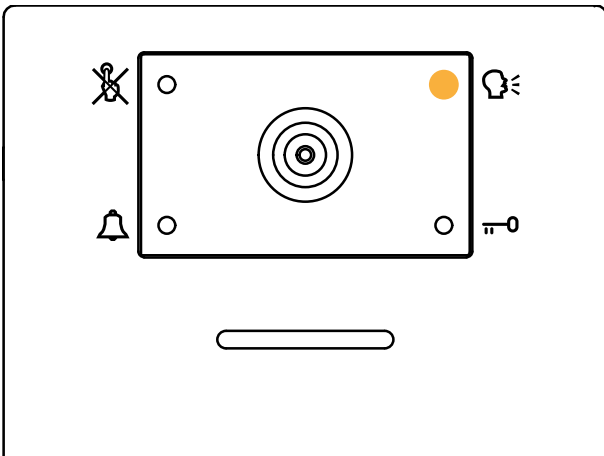

Fig. 9 The conversation is in progress
- When the resident answers, the  yellow LED (Fig. 9) illuminates and remains illuminated until the conversation terminates.